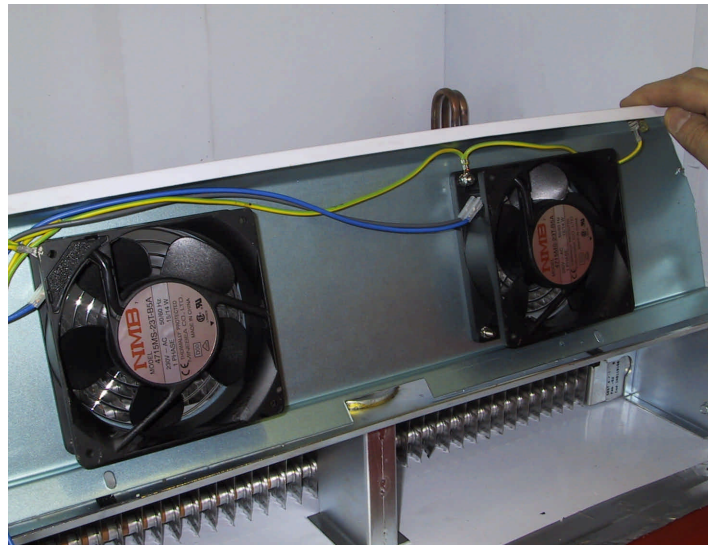

Figure 16
Fig. 11. The evaporator motor fans (MI) (47) and relative protection grills (36) are fixed together by 4 screws each and one of them is also grounded. Remove these screws and the supply wires before the motor fan replacement (Fig. 16). On each of the new motor fans remember to ground one screw again.